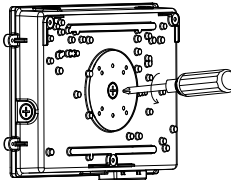

Figure 9
4. Use a screwdriver to remove the 1/2" NPT KO plug from the back of the fixture. (see Fig. 9)